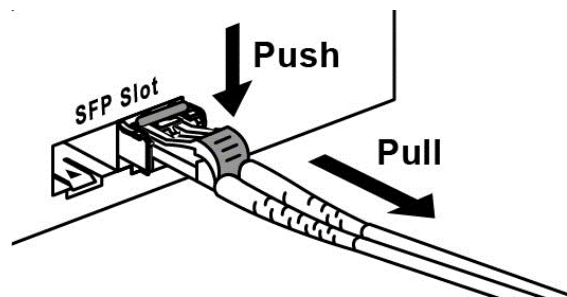

Figure 2.7: Remove LC Connector
Step 1. Press the upper side of the LC connector from the transceiver and pull it out to release as shown below in Figure 2.7